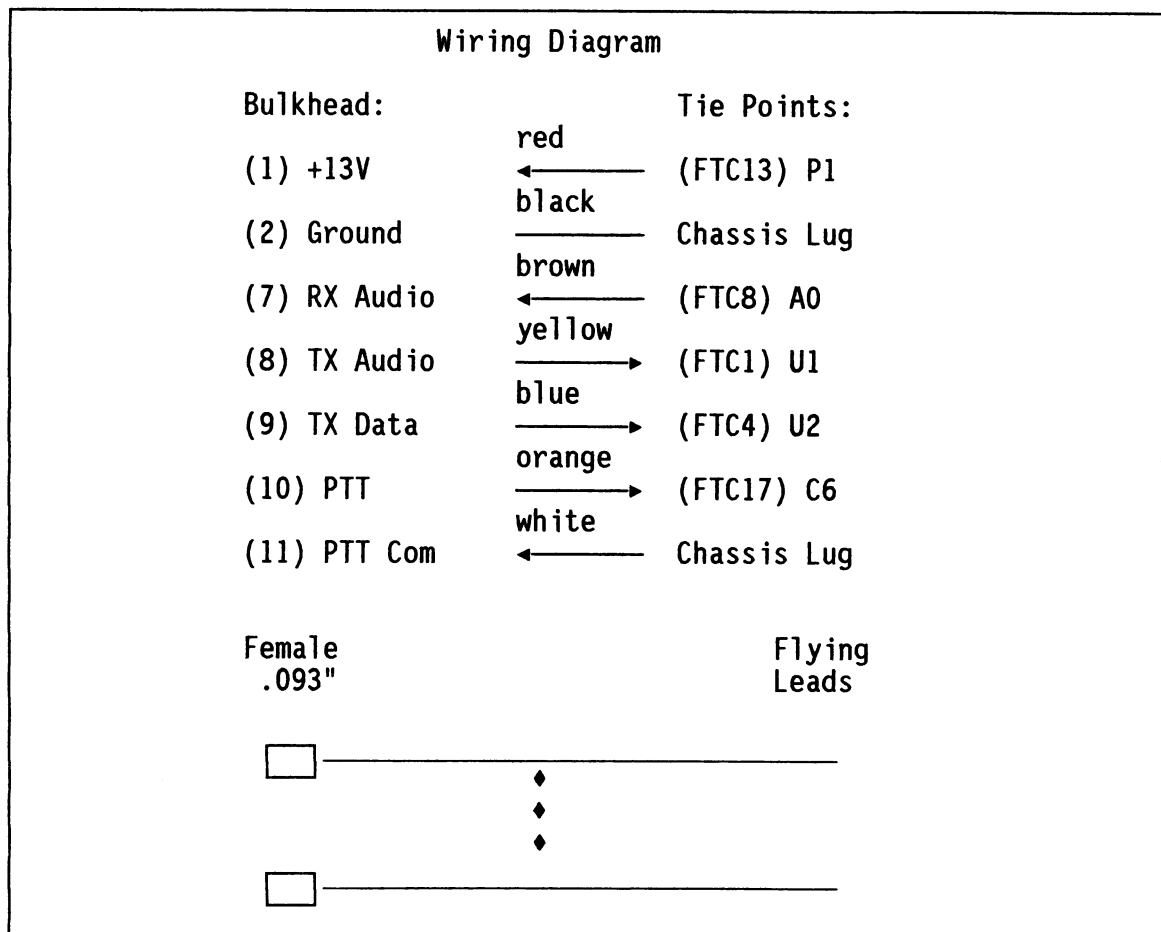

Figure 4-8. Relm Repeater Jumper Cable (P/N 709-7152)
- [2]. Locate the Zetron jumper cable (Part No. 709-7152) in the cable kit (Part No. 709-7148). See Figure 4-8.